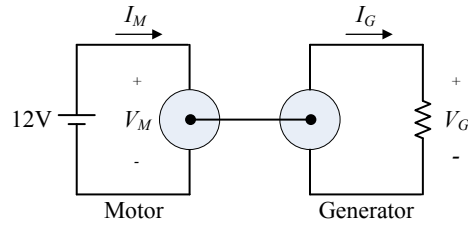

Figure 9.11. Motor – Generator.
8. **A DC Machine as a Motor:** Now remove the crank from the shaft and connect 12 VDC across one of the machines so it acts as a motor as shown in Figure 9.11. Record the motor and generator voltages and currents, I_M , V_M , I_G and V_G . Now connect three incandescent lamps across terminals of the generator and record I_M , V_M , I_G and V_G . Compute the efficiency.